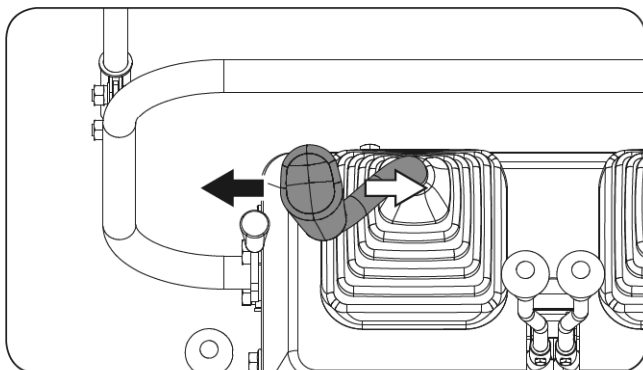

Figure 40
2. Tilt the control lever to the right and the upper structure will turn to the right. (See **Figure 40 & 41**)